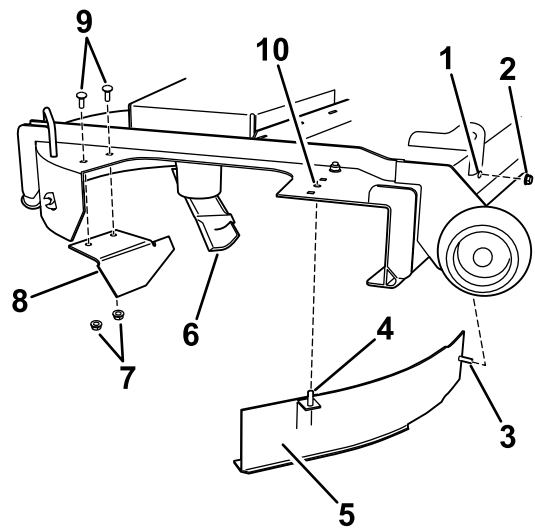

Figure 17
3. Locate and install the angled cutoff baffle to the mower deck at the rear holes in the mower deck (Figure 17).
4. Install the curved baffle to the mower deck (Figure 17).